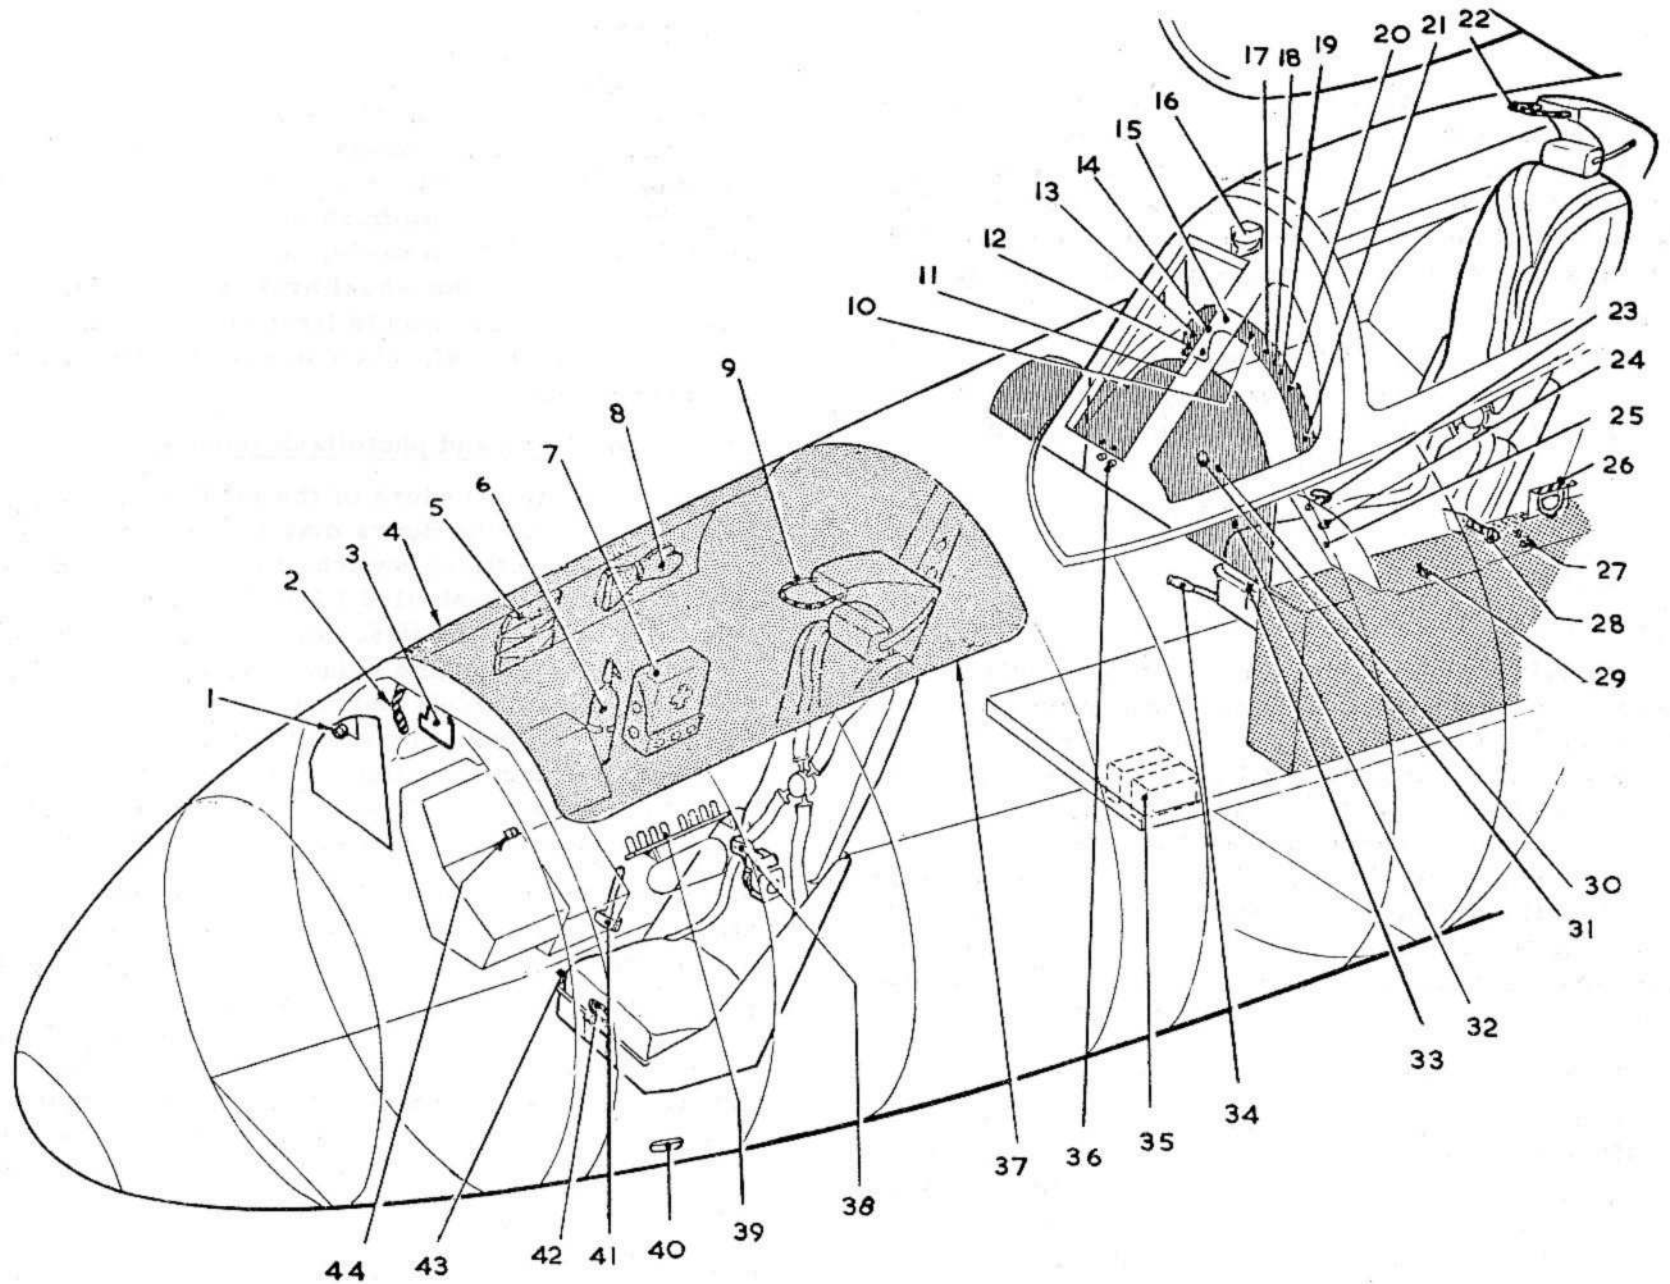

Fig.1 Emergency controls, equipment and exits
KEY TO FIG. 1
1. This chapter describes the location of emergency controls, equipment and exits, and the methods of operation where this is not obvious. Location of the various controls and equipment is shown pictorially in fig. 1. A full description of the systems employed together with the servicing procedure, is given in the following sections:-